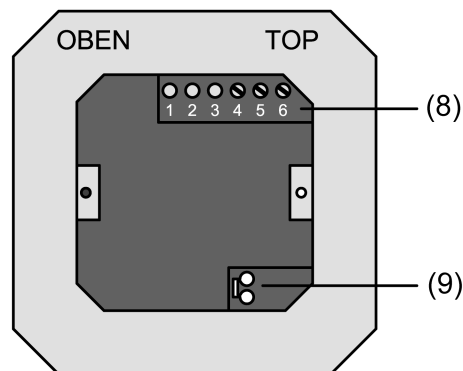

Figure 3: Terminal insert with connections
- (8) Connecting strip binary inputs
- (9) KNX connection
- Insert the stripped bus cables into the terminal (9) in the terminal insert (figure 3)